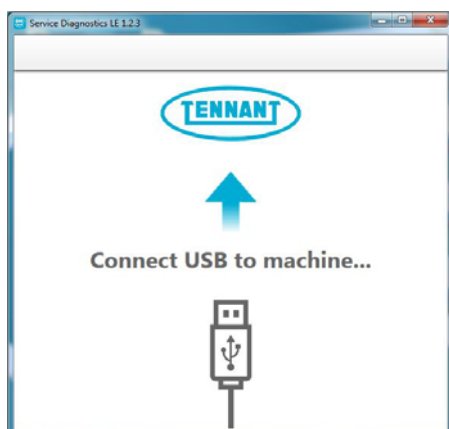

Fig. 19
2. After start up, the following screen will appear (Figure 19).